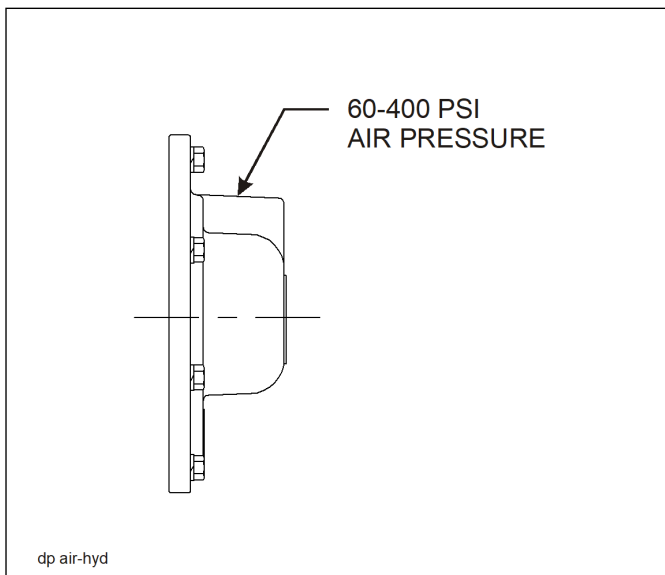

Figure 3-8: Air/Hydraulic Kickout
2. The air freespool clutch is operated by application of air pressure to the fitting supplied on the winch gearbox housing (See Figure 3-8.) The fitting is designed to accept 1/4" rigid plastic tubing.